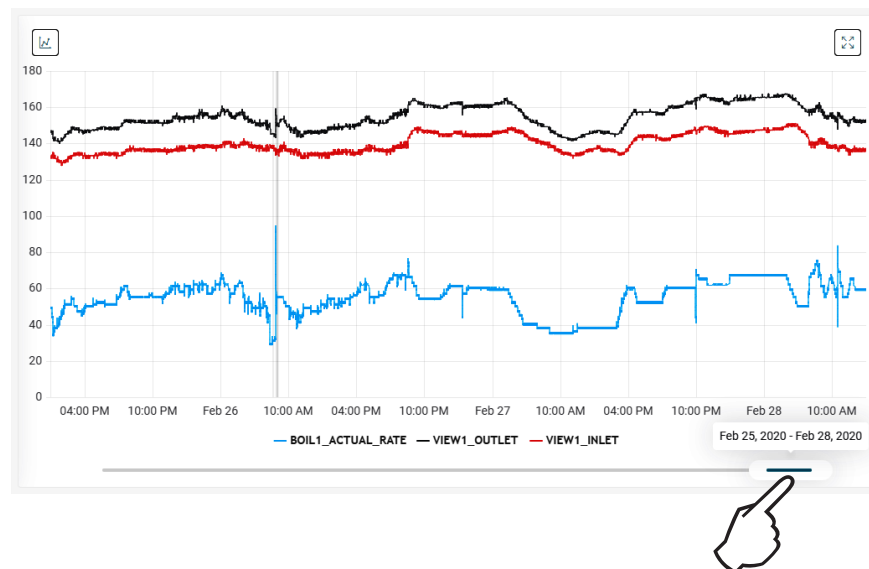

Figure 75. Time Frame Adjustment
8. If you want to change the displayed time frame, on the lower part of the graph there is a bar specifying the time frame to be graphed. See **Figure 75**.